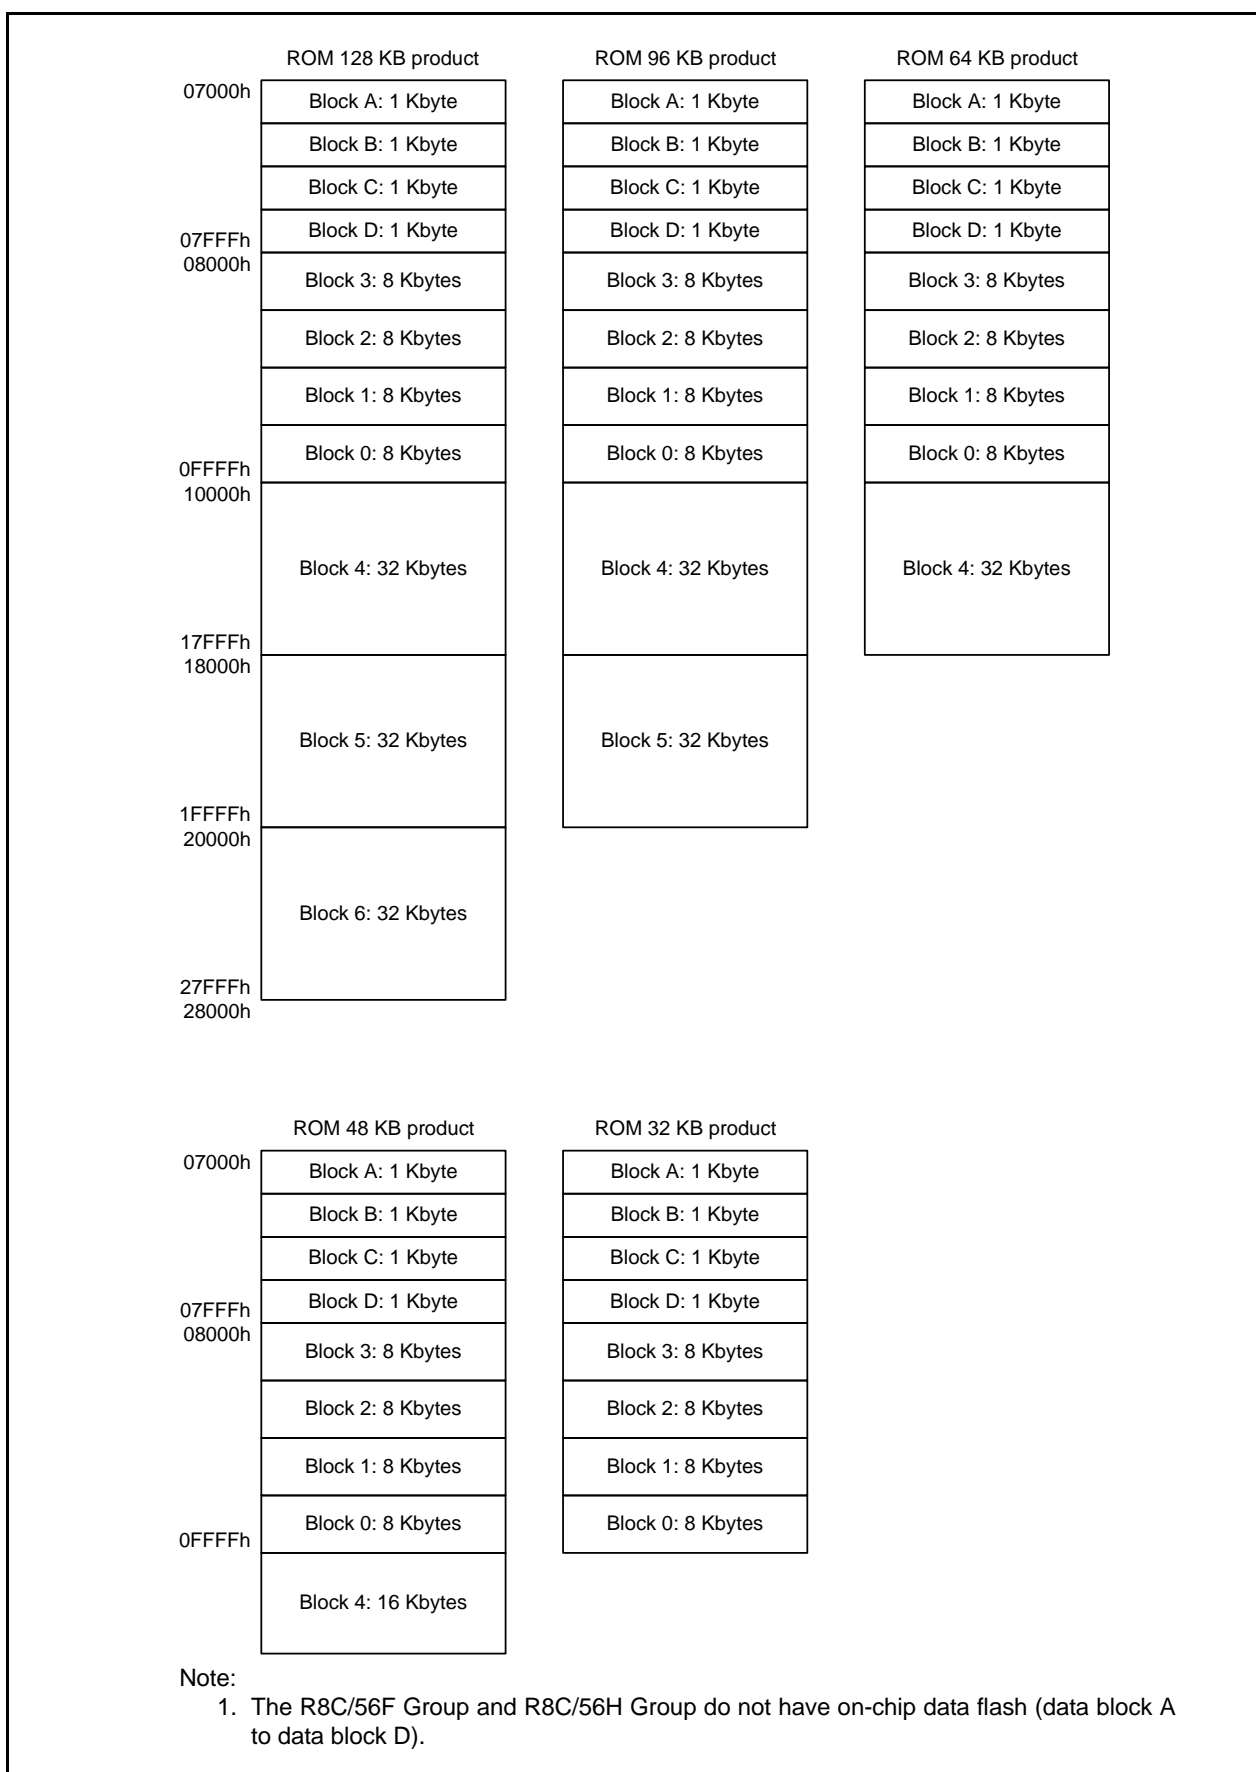

Figure 29.1 R8C/56E Group, R8C/56F Group, R8C/56G Group, R8C/56H Group Flash Memory Block Diagram
| Division of erase blocks | | Refer to Figure 29.1 . |
- The number of blocks and block division vary with the MCU. Refer to **Figure 29.1 R8C/56E Group, R8C/56F Group, R8C/56G Group, R8C/56H Group Flash Memory Block Diagram** for details.
Figure 29.1 shows the Flash Memory Block Diagrams of the R8C/56E Group, R8C/56F Group, R8C/56G Group, R8C/56H Group.